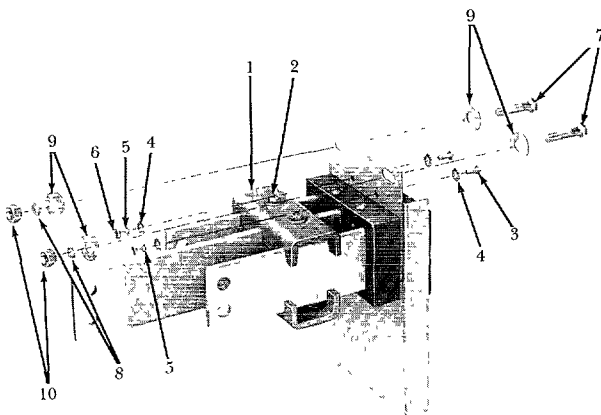

Figure 4.
1. Remove channel supports (1) from bus bars by removing two 1/4" bolts (2).
2. Slide Plug-In Bases through rectangular holes in the pan. Secure bases to the pan using eight #8-32 × 1/2" long screws (3), flatwashers (4), lockwashers (5), and hex nuts (6). This hardware is provided in the Plug-in base kit. See Figure 4.
4. Secure Plug-In Base and Pan assembly to existing structure or panel using four #5/16-18 × 1" long bolts (7), lockwashers (8), flatwashers (9), and hex nuts (10).